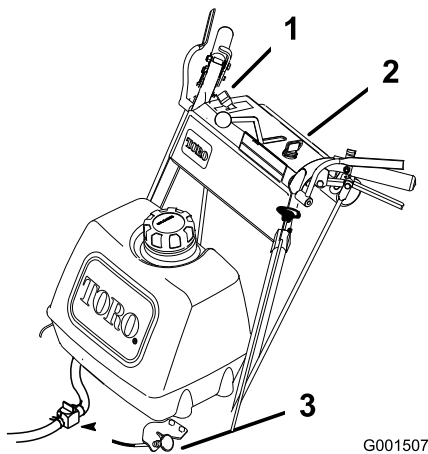

Figure 9
11. Push the choke to the off position as the engine warms up (Figure 9).
1. Move the throttle lever to the slow position (Figure 9).